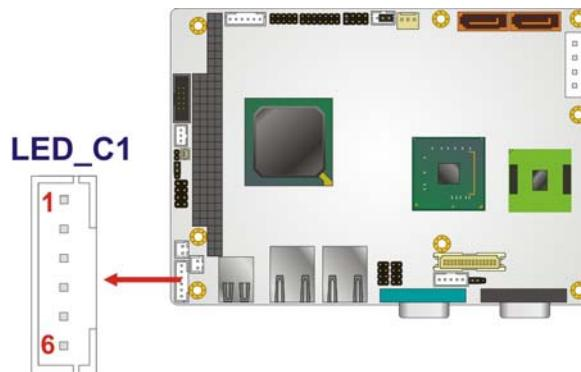

Figure 3-12: LED Connector Location
**CN Location:** See Figure 3-12